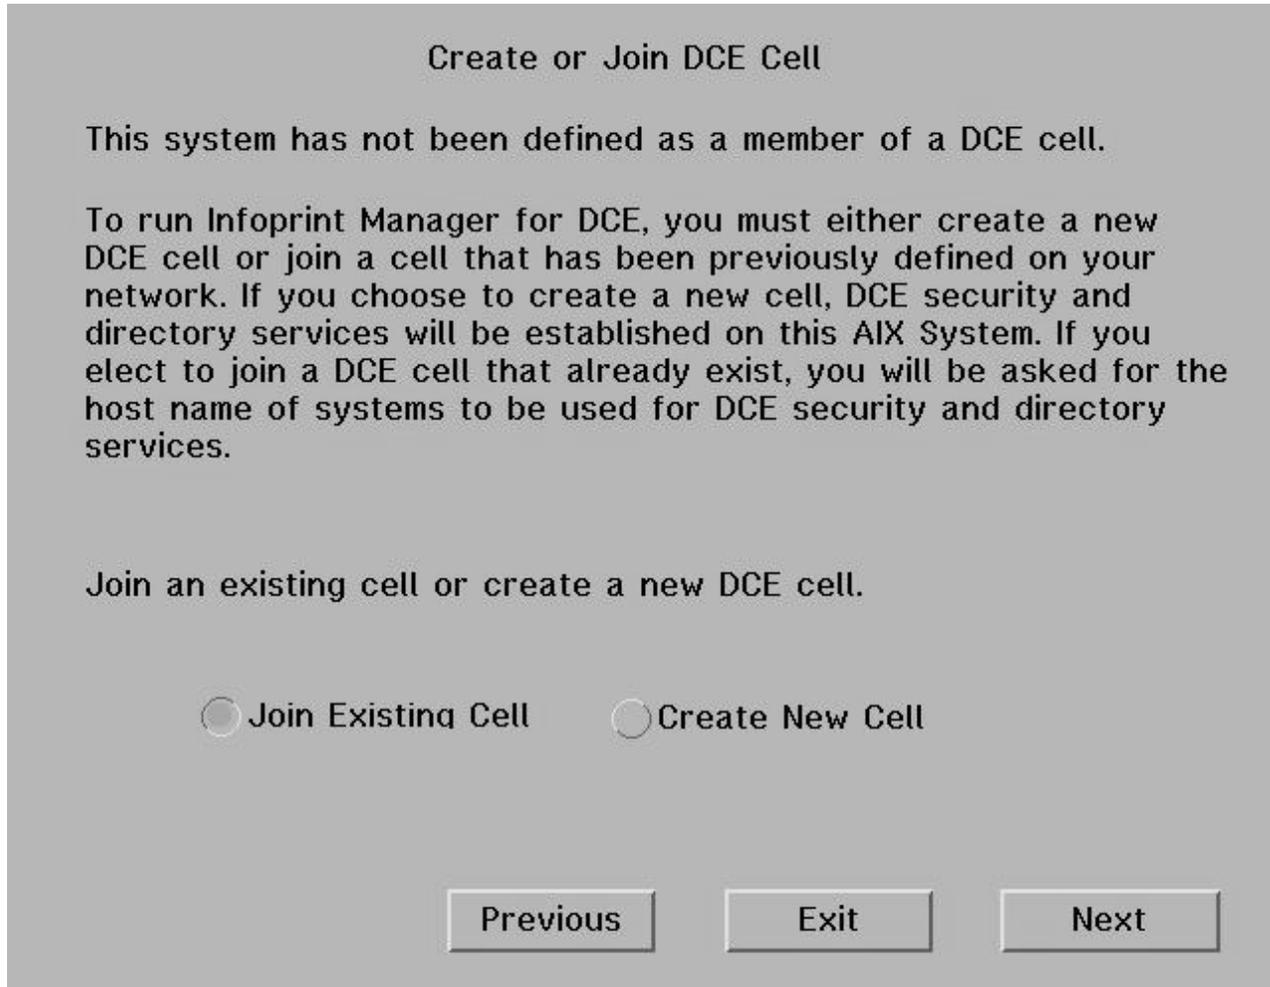

Figure 13. Infoprint Installer: Create or Join DCE Cell panel
4. Once you insert the CD-ROM in the CD-ROM drive, the Installer displays an AIX window that shows DCE initializing and preparing for the install. Then the **Create or Join DCE Cell** panel appears, giving you the opportunity to either create your own cell or join an existing DCE cell (Figure 13). Once you make your selection, click **Next** to proceed.